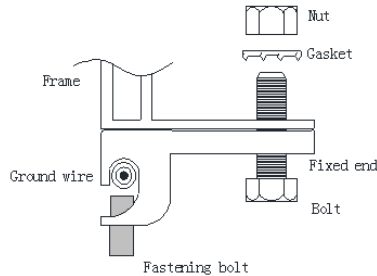

Figure 15: Grounding the aluminum frame with a copper wire
- Use the marked 5.5 mm grounding holes to ground the anodized aluminum frame. Use an M5 nut, an M5 gasket, and an M5 bolt, fastening bolt and a ground wire. All nuts, bolts, and gasket should be made of stainless steel. See *Figure 15*.